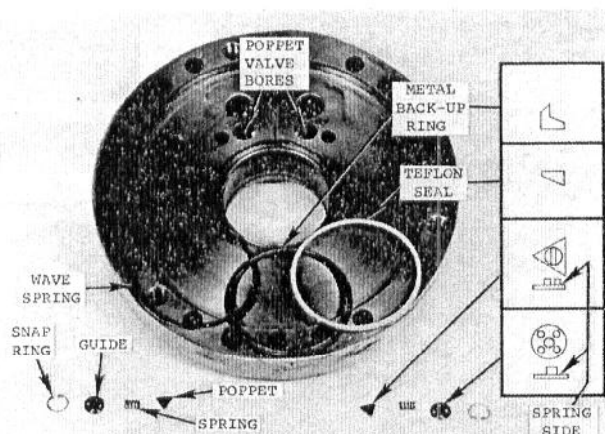
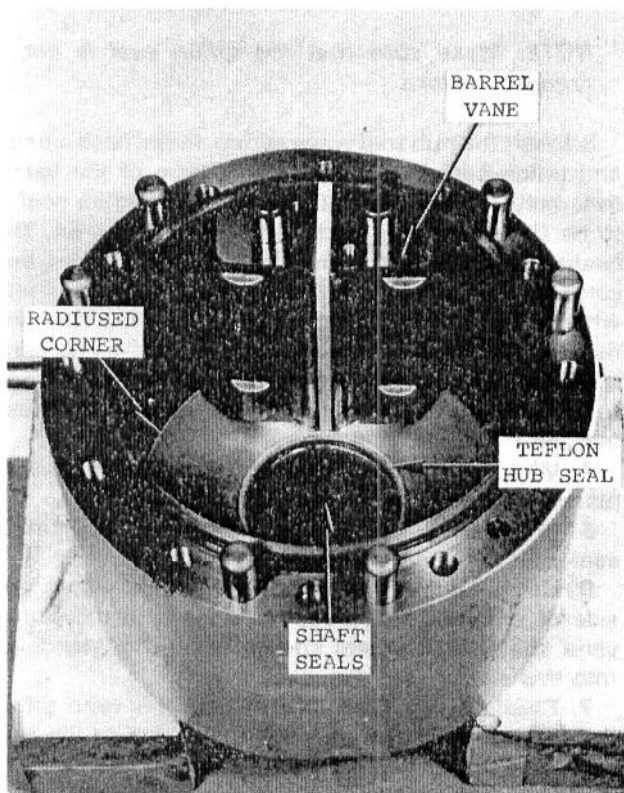
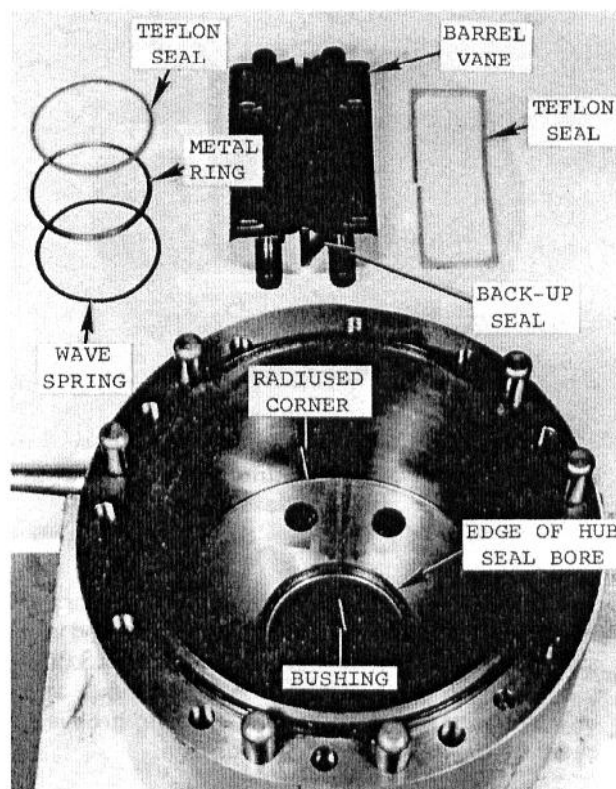
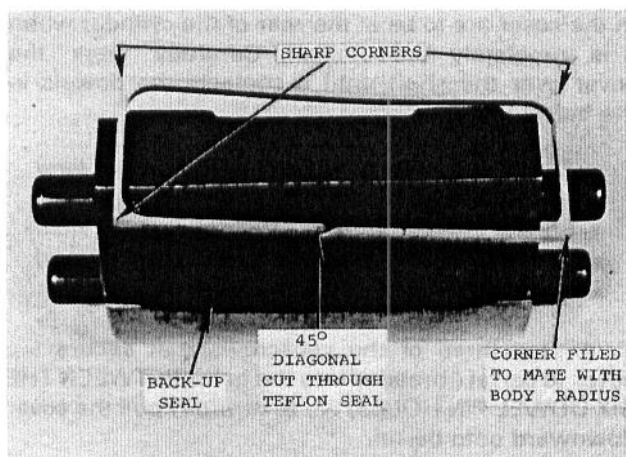

Fig. 49 — Hub Seal (with Related Parts) and Anti-Cavitation Poppets Removed From Top Cover
Fig. 54 — Barrel Vane Relationship to Barrel (Vane Shaft Removed)
Fig. 55 — Barrel Vane (With Related Parts) and Hub Seals Removed From Cylinder
Fig. 58 — Shaping Teflon Seal for Barrel Vane
b. Remove hub seal, metal back-up ring, wave spring and both anti-cavitation poppets from the cover ... see Fig. 49.
8. Carefully remove the barrel vane with related seals, the hub seal, metal back-up ring, wave spring, the teflon shaft seal (and "O"-ring) from the barrel assembly ... see Figs. 54 and 55.
2. Install the shaft seal "O"-ring into its groove within barrel assembly ... then install the teflon seal over the "O"-ring. **CAREFULLY** smooth the teflon seal with a screwdriver handle ... see Fig. 54 ... then lightly grease this seal. (The teflon seal is designed to fit around the shaft and to be "loaded" by the "O"-ring. The "O"-ring should not contact the shaft.)
3. Insert the hub seal wave spring, metal back-up ring and teflon seal into the hub seal bore of the barrel assembly ... see Figs. 49 and 55. (The teflon seal is to be fitted into the metal ring ... see Fig. 54. The sealing surface is the one that faces outward and contacts the end of the hub diameter of the vane shaft, when the seal is installed in the bore cavity. This seal must be free of all damage ... especially at its corners. It should fit snug into its bore but still be free enough to move when depressed. A tight hub seal can cause leakage.)
7. Carefully file **ONE CORNER** of the vane teflon seal so that it mates with the radius inside the barrel assembly ... see Figs. 54, 55 and 57.
8. Carefully insert the spacer, with seals installed, into its slot in the vane shaft. Make sure that the SHAPED side of the teflon seal is correctly positioned into the slot and that the ROUNDED SHAPED corner is nearer the splined end of the shaft (and will correctly mate with the radiused corner of the barrel when the shaft is installed) ... see Figs. 54, 55 and 57.
13. CAREFULLY file ONE CORNER of the barrel vane teflon seal to SHAPE it so that it mates with the radiused corner of the barrel ... see Fig. 58. Also
see Fig. 55. Make a 45° DIAGONAL CUT through the LONG side of the seal ... between the rounded corner and a sharp corner similar to that shown in Fig. 58. (This cut should be half-way between the corners of the seal and will be positioned between the barrel vane and the barrel when assembly is completed ... see Fig. 54.)
NOTE: Make certain that the plastic (or shim stock) protects between the shaft and the teflon seal ... and between the barrel and the teflon seal. Also make sure that the diagonal cut on this teflon seal is positioned between the barrel and the barrel vane ... see Figs. 54 and 58.
22. Insert the hub seal wave spring, metal back-up ring and teflon seal into the hub seal bore of the top cover ... see Figs. 49 and 59. (The teflon seal is to be fitted into the metal ring. The sealing surface is the one that faces outward and contacts the end of the hub diameter of the vane shaft, when the seal is installed in the bore cavity. This seal must be free